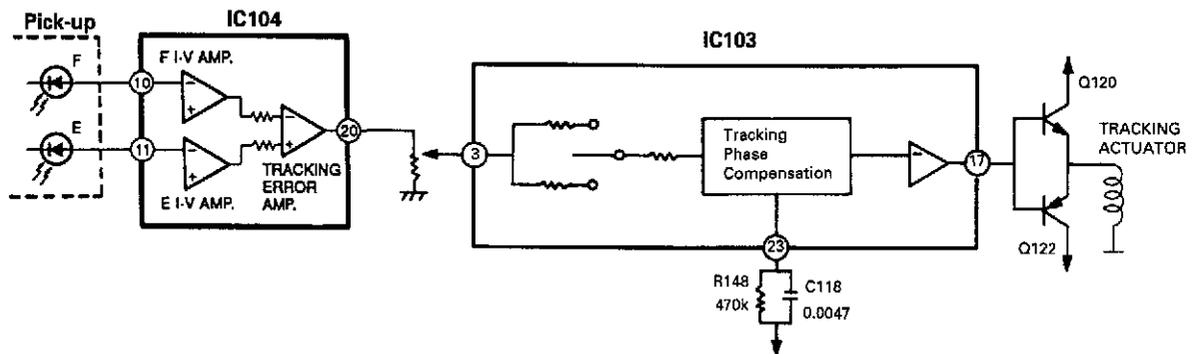

Fig. 6
- 1) Remove 3 screws (① to ③).
- 3) Remove 3 screws (④ to ⑥).
- 4) Turn to the clockwise gear loading of the assembly lock gear (see figure 6).
#### 4. Remove the loading table (Figure 6).
When a tracking error signal is detected by photodiodes E and F, it is fed to pins 17 and 10 of IC104 respectively as shown in Fig. 6. In IC104, the signal is converted into voltage by the E I-V amplifier and F I-V amplifier, transmitted to the tracking error amplifier and output through pin 20. While it passes through IC103, in from pin 3 and out from pin 17, it is amplified in IC103 and sent to the tracking coil to adjust pickup so that the amount of track shift is reduced as closely to none as possible.